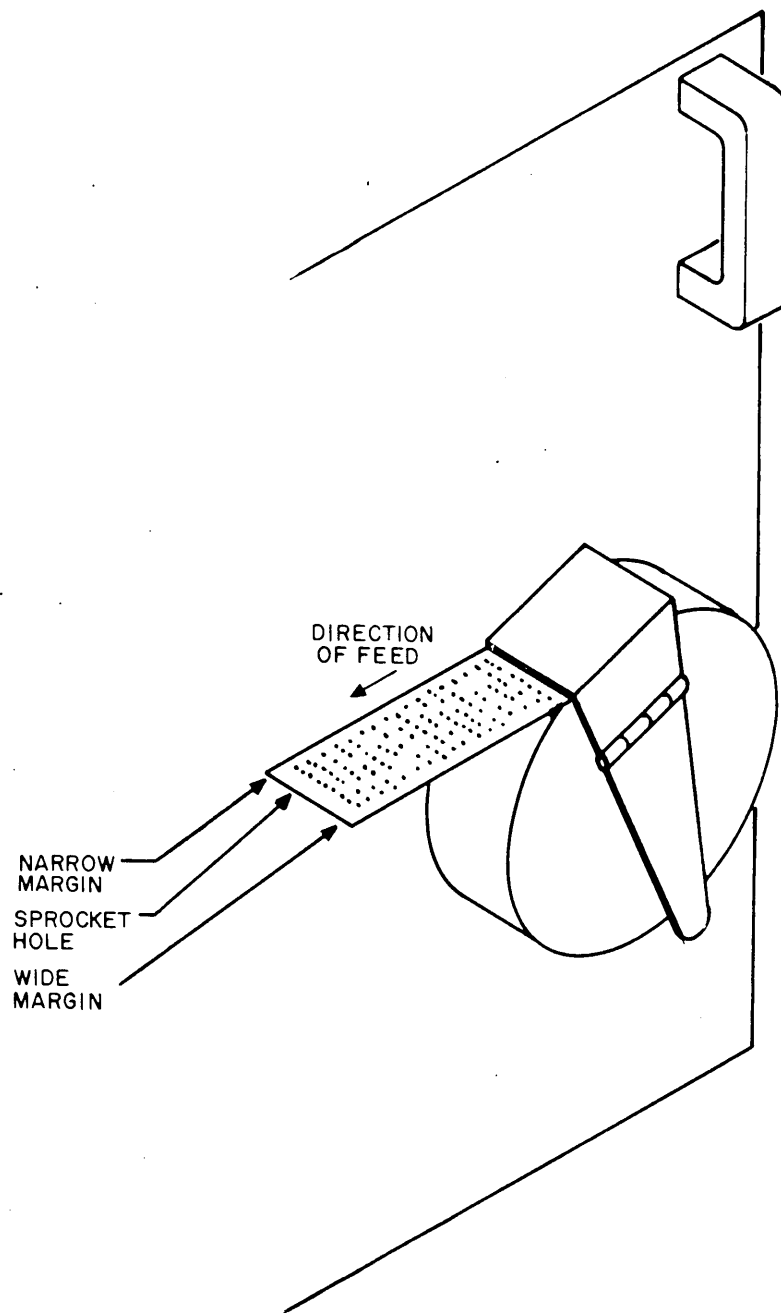

Figure 2-8. Tape Orientation on Tape Reader.
2-18. Tape Reader Loading. To place a data punched tape in the tape reader, see figures 2-8 and 2-9, and perform the following steps:
a. Place perforated tape in tape reader holder assembly with wide margin toward operator (figure 2-8).